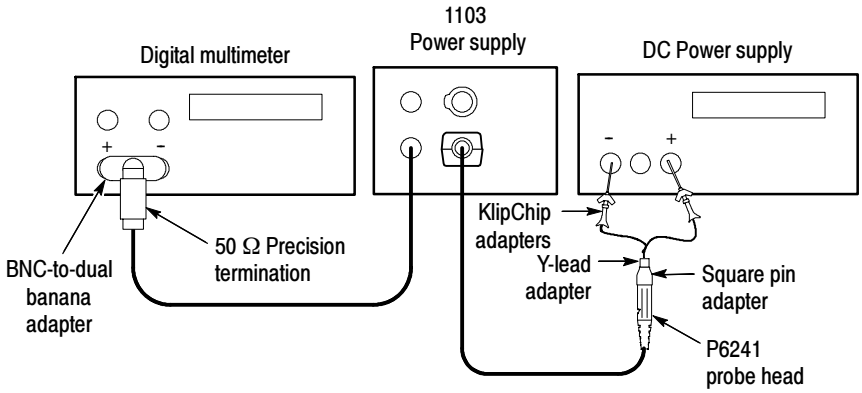

Figure 15: Setup for DC gain accuracy
1. Connect the test equipment as shown in Figure 15 on page 49.